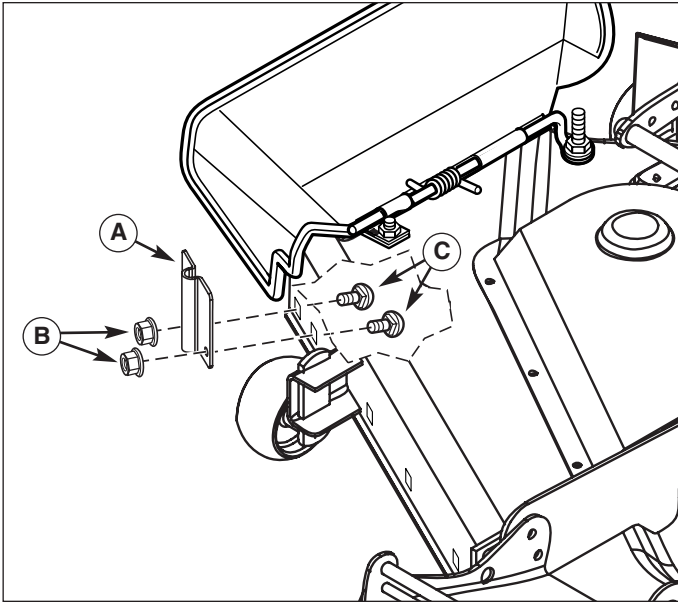

Figure 4. Install Mounting Plate
1. Install mounting plate (A, Figure 4) to mower deck as shown. Secure with 5/16-18 x 5/8 carriage bolts (C) and 5/16-18 locknuts (A).